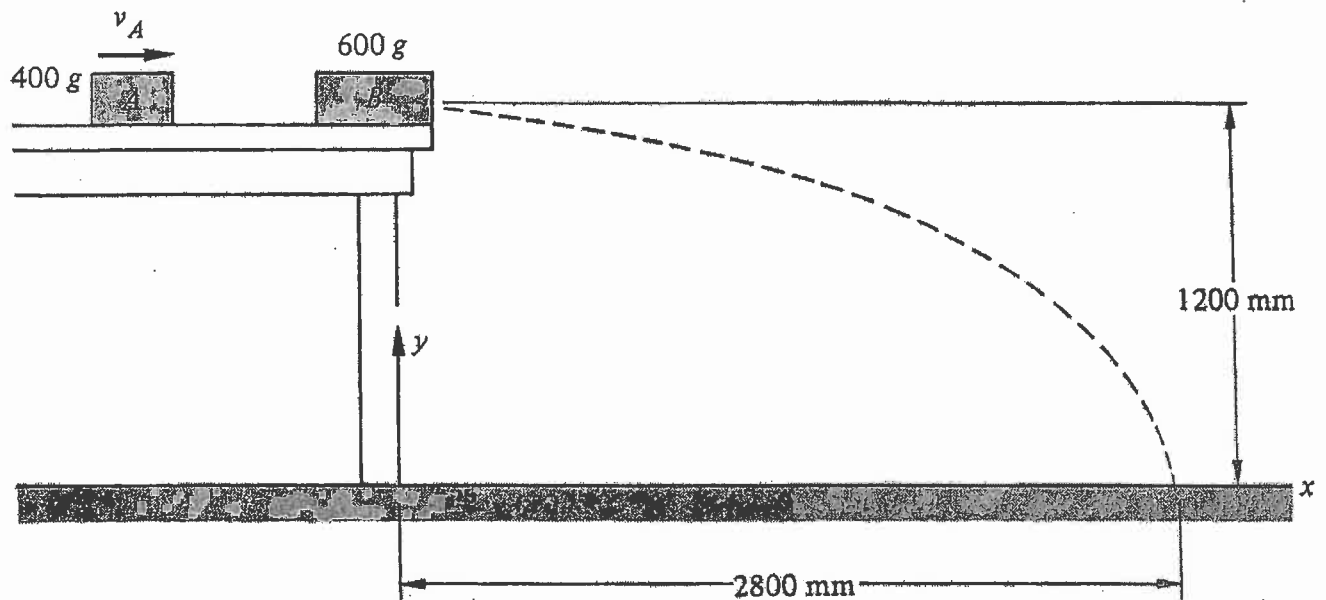

FIGURE 5.
- V. Block B , which has a mass of 600 grams rests on the edge of a table, as shown in figure 5. A second block, block A , which has a mass of 400 grams moves to the right with a velocity of v_A and strikes block B , causing the trajectory shown in the figure. The coefficient of restitution of the impact is 0.95. Determine the initial velocity v_A and the final velocity v_A' of block A .